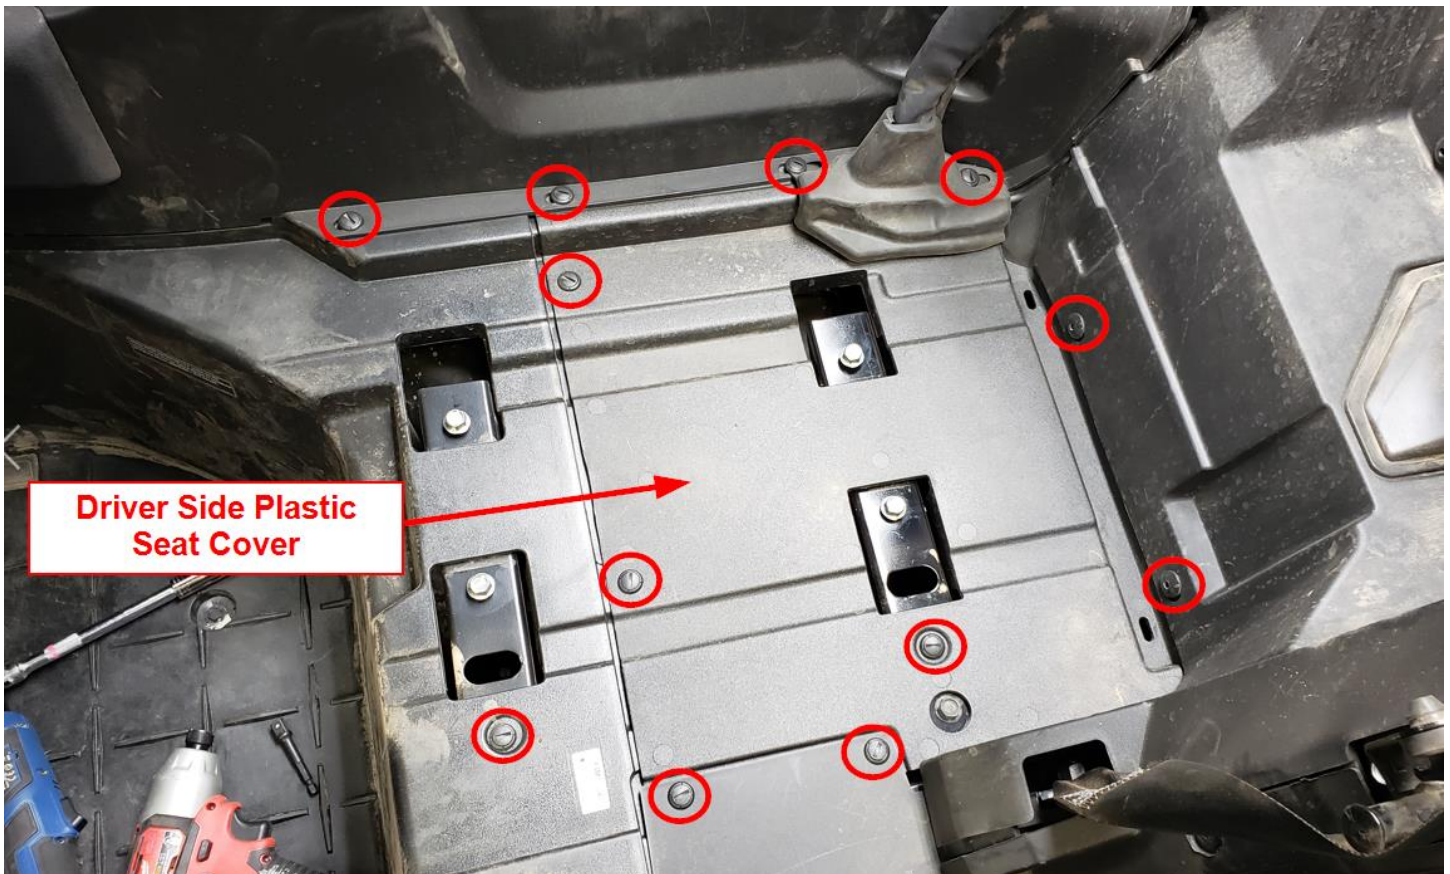
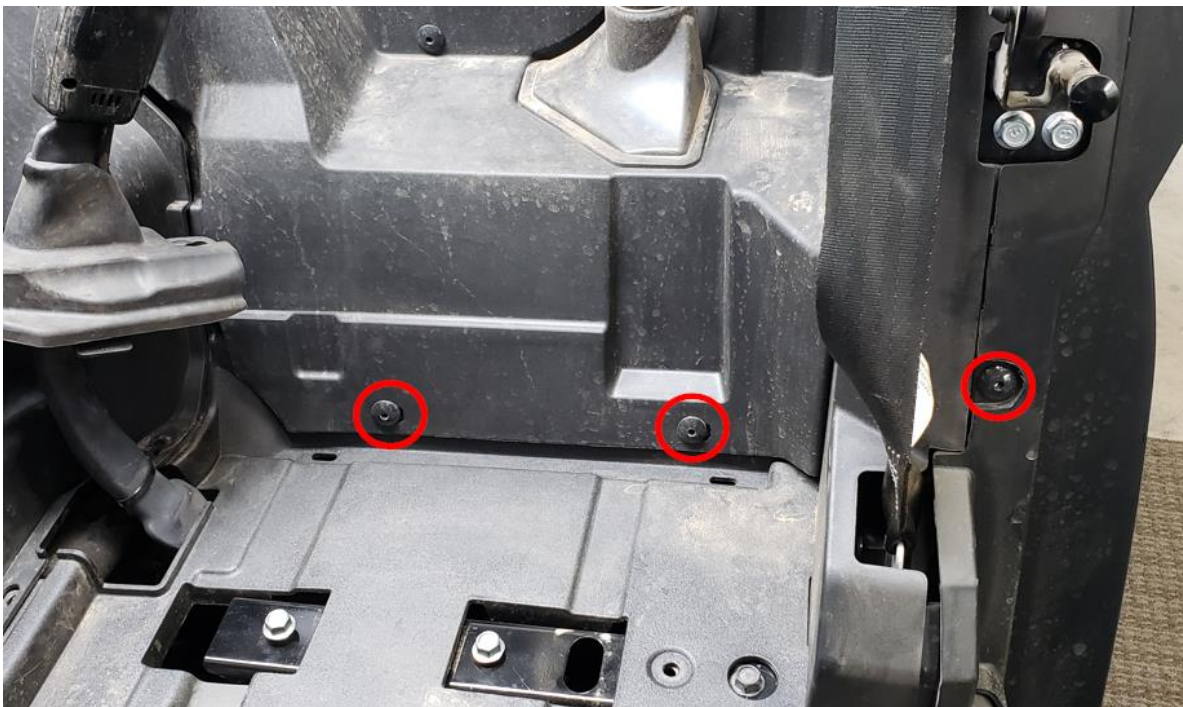
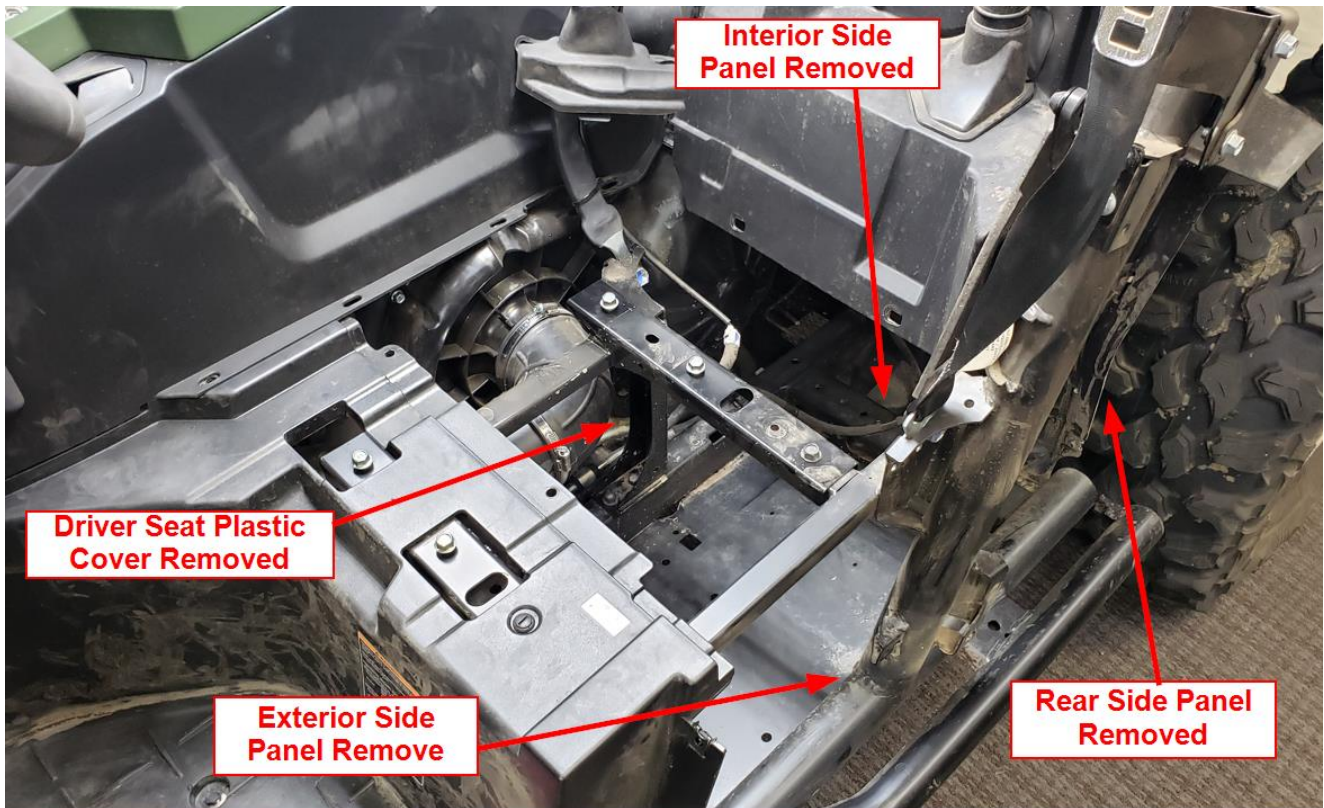

Figure 4
Figure 5
Figure 8
- f. Remove Driver Side Seat Plastic Cover, Exterior Side Panel, Interior Side Panel and Rear Side Panel as shown in Figure 4, Figure 5, Figure 6, Figure 7 and Figure 8.